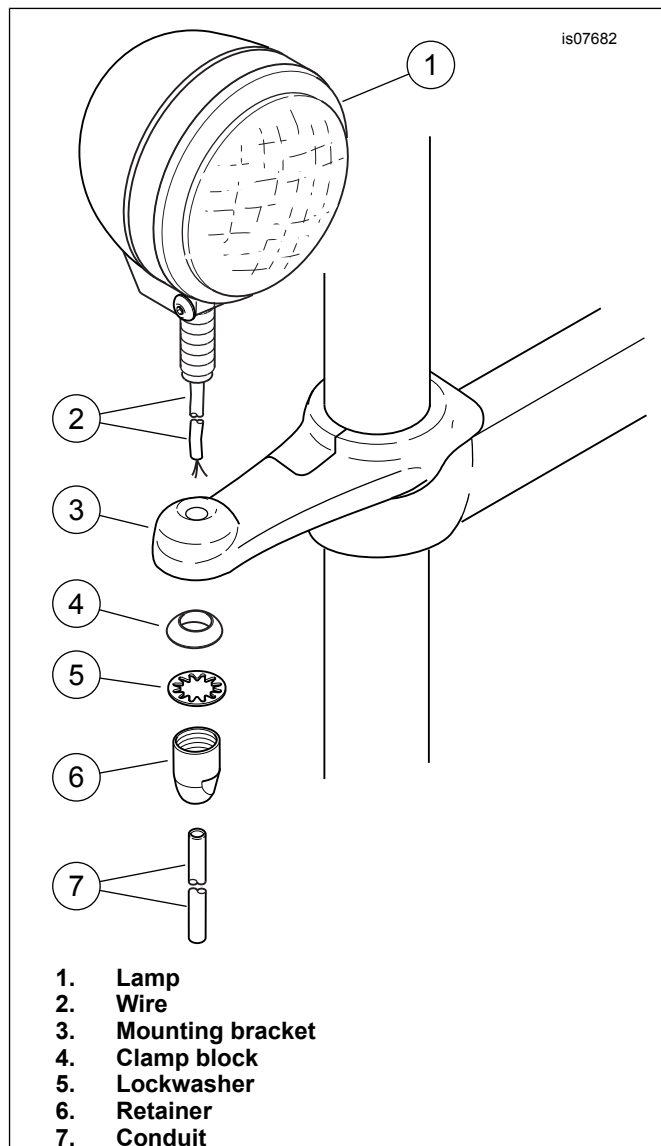

Figure 2. Install Lamp (Right Side Shown)
2. See Figure 2. Route the wire (2) of the **blue** lamp (1) through the mounting bracket (3). Secure the lamp to the bracket with a clamp block (4), lockwasher (5) and retainer (6). Tighten the retainer to 22–24 N·m (16–18 ft-lbs).
3. Slide the conduit (7) over the lamp wire.